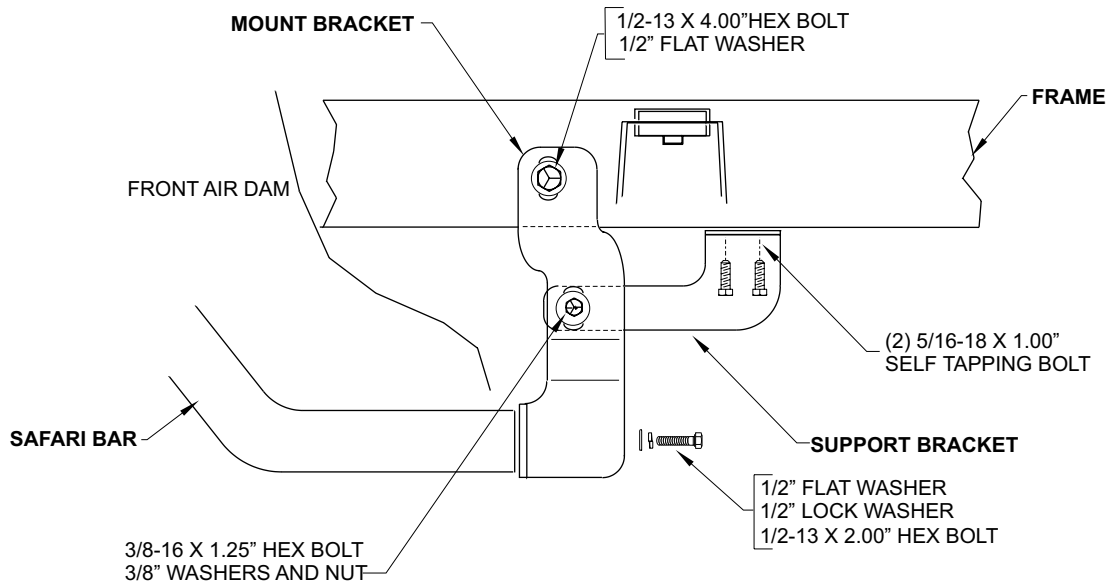

FIGURE 2
- STEP 3. Install Mount Brackets on the outside face of frame members with 1/2-13 x 4.00" Hex Head Bolts. Secure with Backing Plates and 1/2" fasteners. See Figure 2. Leave loose.